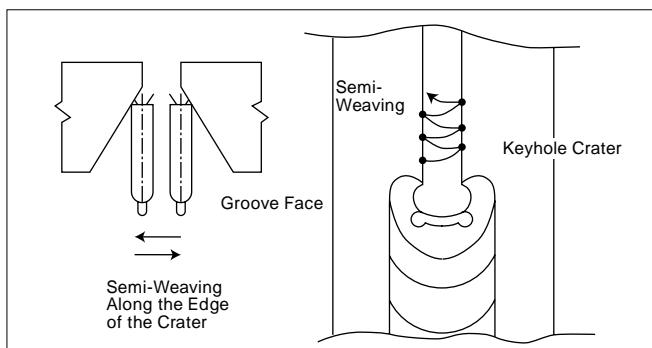

Fig. 4 - The keyhole technique
- (1) Use the keyhole technique. Right after you get the arc by striking the groove face, control the molten pool to form the keyhole crater; then manipulate the electrode along the edge of the keyhole by using the semi-weaving technique. – Fig. 4.
- (4) Grind both the starting and ending terminals of the preceding weld beads to assure a smooth joint of weld beads with the succeeding welds.
- (5) When joining the weld beads, start the arc on the preceding bead, and expose the arc into the keyhole to assure better fusion; then follow the same procedure as in Fig. 4.